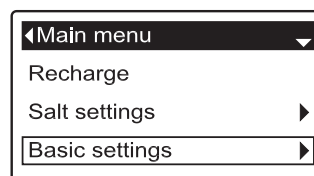

FIG. 31
1. From any of the rolling status screens, press the SELECT (O) button to display the **Main menu**.
2. Press the DOWN (▼) button to scroll through the menu options until **Basic settings** is highlighted (See Figure 31).